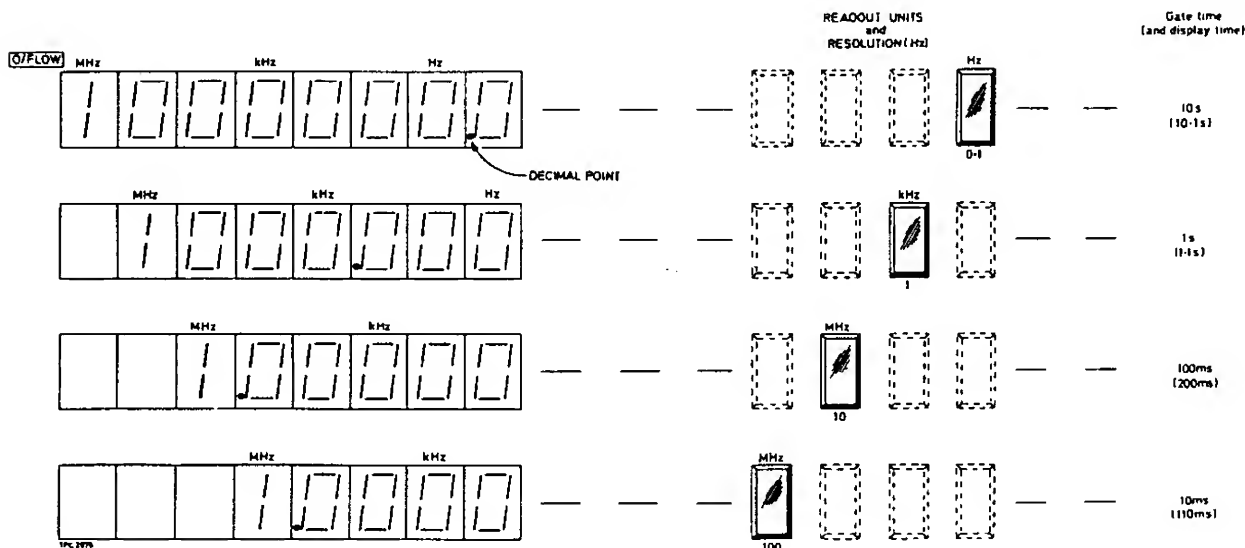

Fig. 2.2 Readout calibration and display data for a 10 MHz signal
- (1) Set the SELECT switch to suit the input frequency and connect the signal to be measured to the selected input socket.
- (2) The instrument is controlled from its internal 1 MHz standard unless an external standard is connected as in Sect. 2.4.
- (3) Select the required READOUT UNITS, noting the corresponding resolution figure, i.e. the value of the smallest units in the display. The decimal point position, readout calibration and gate and display times are shown in Fig. 2.2.
The display will be updated at the intervals shown in Fig. 2.2 unless the HOLD button is pressed. In this case the HOLD indicator will light and the display will be held indefinitely, even if the input signal is removed.
- (1) Connect the 1 MHz INT STD socket to the selected INPUT socket and terminate the signal into 50 Ω by using a T-connector.
- (2) Remove any connection to the EXT STD socket.
- (3) Select each of the READOUT UNITS in turn and check that the readout is within ± 1 count of that shown in Fig. 2.2.
- (4) Press the HOLD button and check that the HOLD indicator lights and that the readout is retained when the input lead is disconnected.